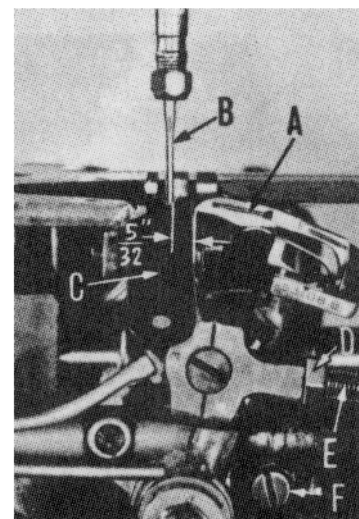
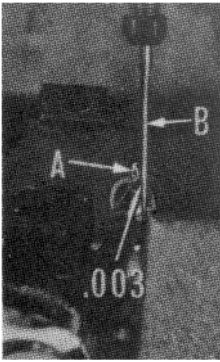

Fig. 5
Fig. 6
With the zig-zag motion at the end of its stroke to the right, set the looper (A, Fig. 5) so the distance from the center of the needle (B) to the point of the looper is  $\frac{5}{32}$  inch, when the looper is at its farthest position to the right. Looper gauge No. 21225-5/32 (C) can be used advantageously in making this adjustment. If adjustment is needed, loosen nut (D) (it has a left hand thread) and also loosen nut on right end of connecting rod (E), turn connecting rod forward or backward to obtain  $\frac{5}{32}$  inch and retighten both nuts.
The looper is set correctly in line with the feed when there is .003 inch space between its point (A, Fig. 6) and the rear of the needle (B) as the former is ascending on the right side. If adjustment is needed, loosen screw (F, Fig. 5) and move looper toward or away from needle as required and retighten screw when .003 inch space is obtained.